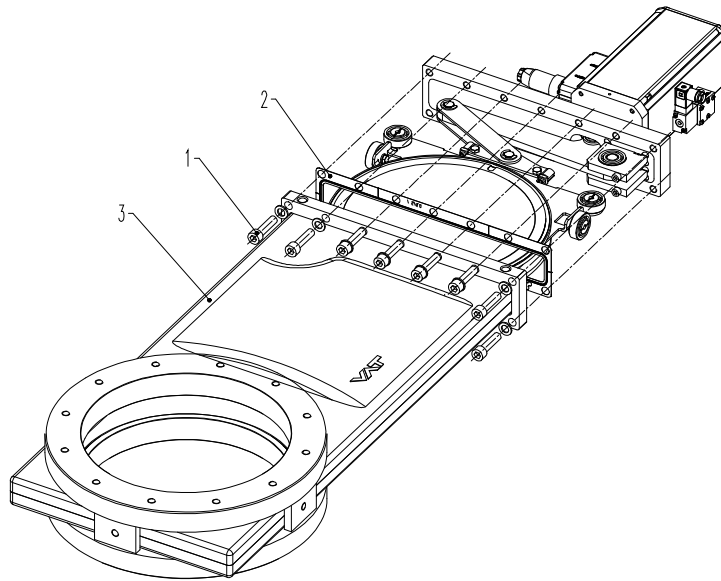

Figure 6-2
5. Remove screws (1) according to «Figure 6-2» on page 16.
6. Lift actuator / mechanism unit carefully from body without touching the body wall; see «Figure 6-2» on page 16. Use only the eyebolt threads; see dimensional drawing.
16. Mount screws (1) according to «Figure 6-2» on page 16.